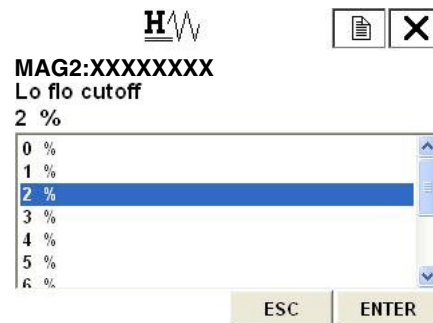

Figure 84.
Figure 84 is then displayed.
- Once the display as shown in Figure 84 appears, move the arrow key up or down to select low flow cut value. The value can be specified from 1% to 10%. After making a selection, press F4(ENTER). If F3 (ESC) is pressed here, the selection is canceled and the display returns to the Noise immunity menu.